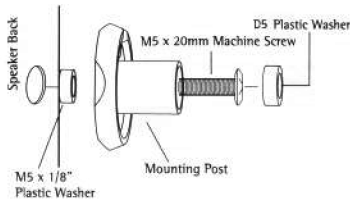

Figure 1
- Most satellite speakers will require the use of the M5 x 20mm machine screw used in combination with the M5 x 1/8\" plastic washer. The plastic washer is used as a spacer between the threaded insert and the post (Figure 1).